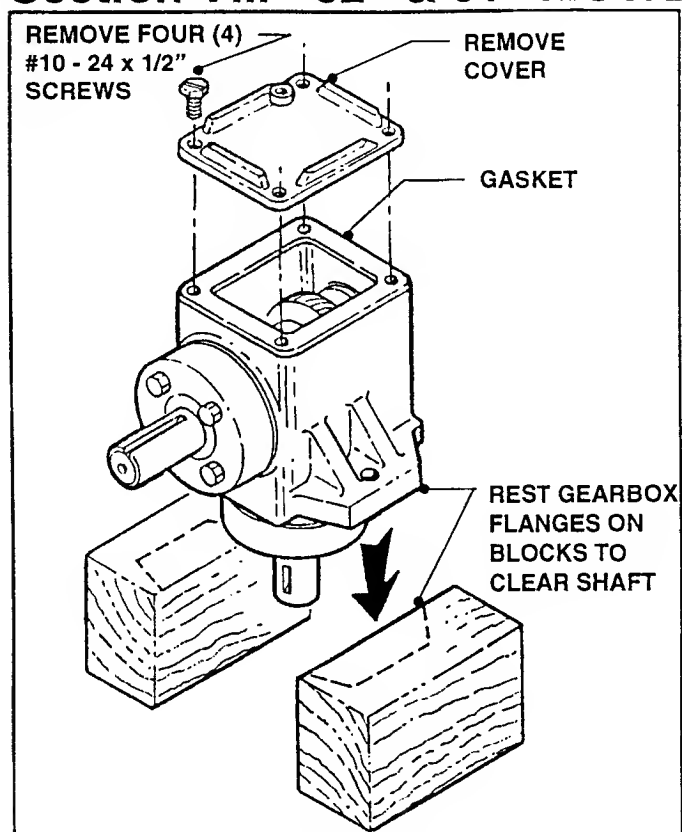

FIGURE 8.7
2. Remove the four (4) #10 - 24 x 1/2" Screws and the Cover. See Figure 8.7.